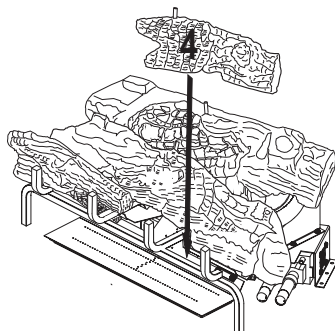

Figure 47 - Installing Log # 4
4. Place the front right log (#4) onto the base assembly between the middle log (#2) and the grate. The back of the front right log (#4) will rest against the front of the middle log (#2). The notch in the end of the front right log (#4) will fit around the grate bar. See Figure 47.